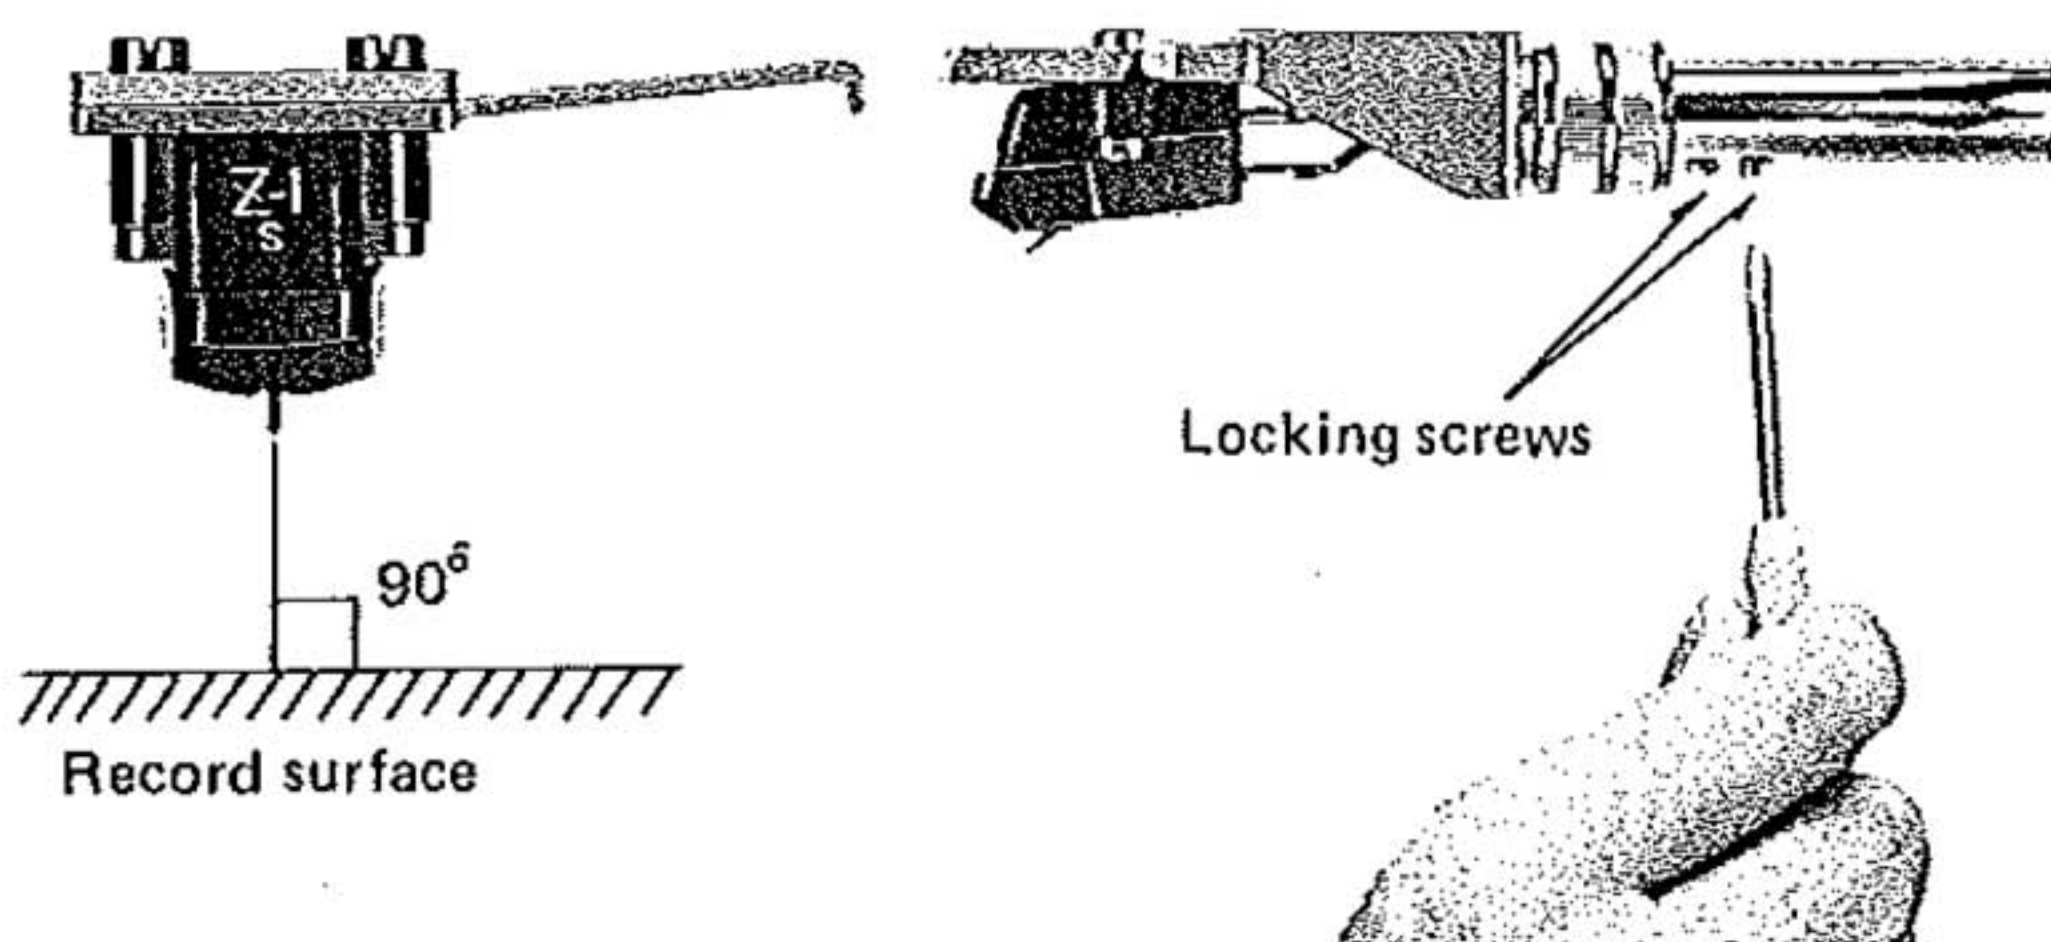

Fig. 7
- **Headshell mounting angle adjustment (Fig. 7)**